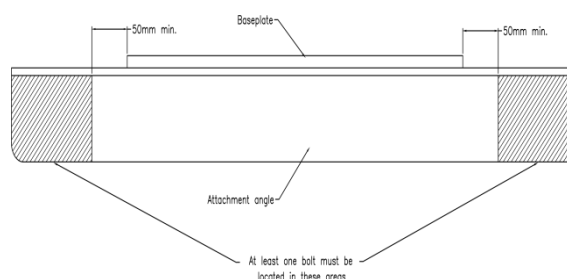

Figure 13: Attachment angle securing bolts
- Do not place this bolt less than 80 mm away from the base plate edges (see Figure 13).